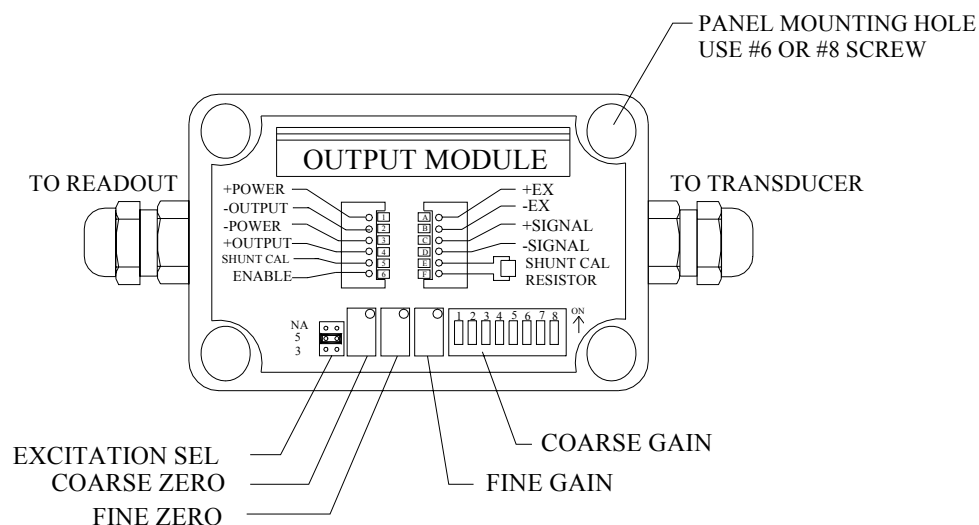

Fig. 1-1. Layout of Inline Amplifier
2. Set the EXCITATION SELECT JUMPER as shown below: (See Fig. 1-1 for location of jumper).
4. Set the COARSE GAIN SWITCH (See Fig. 1-1 for location of switch) to the nearest mV/V setting in the corresponding excitation column in Figure 2-3.
- Step 3. Connect a jumper across PINS 5 & 6 of the power terminals (See Fig. 1-1) or wire in a switch as shown in wiring section. Adjust the span potentiometer to the calculated voltage or calculated units on the readout instrument.